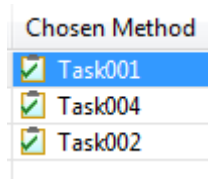

Figure 2. Chosen Method column with values
- Copy and paste selected task method element into the **Chosen method** column (see Figure 2). You can also use drag and drop to perform the same action.